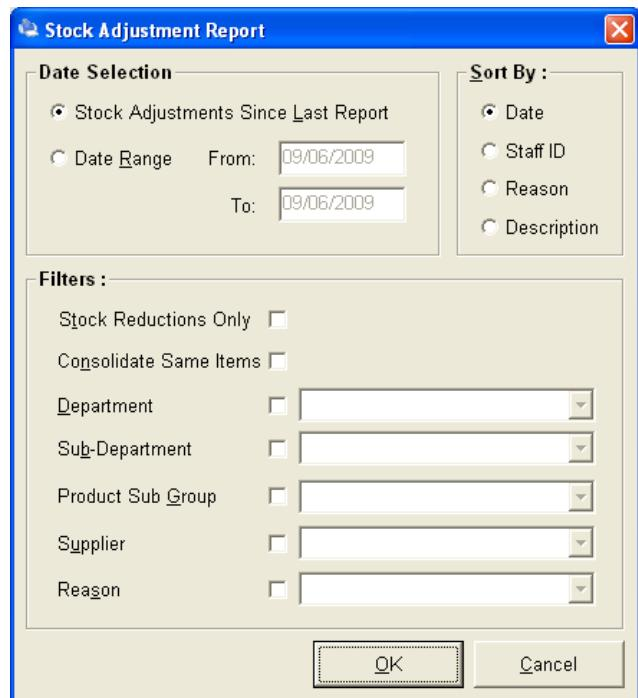

Figure 353
2. This will display the 'Stock Adjustment Report' window (see Figure 353).